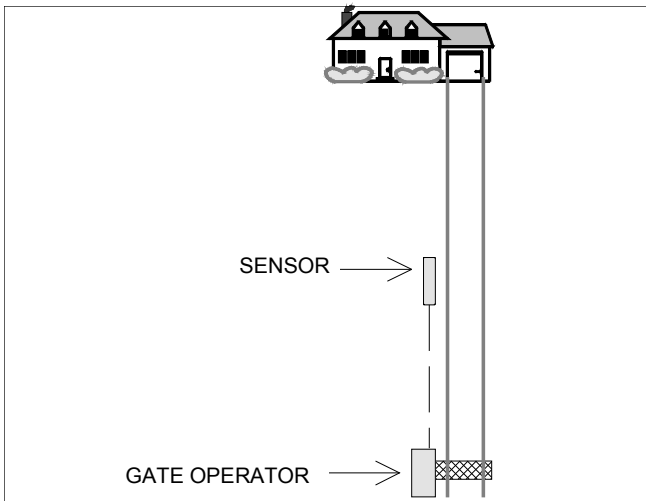

Figure 2. Typical Free Exit Layout
B. Installation Adjacent to a Driveway (Fig .2)